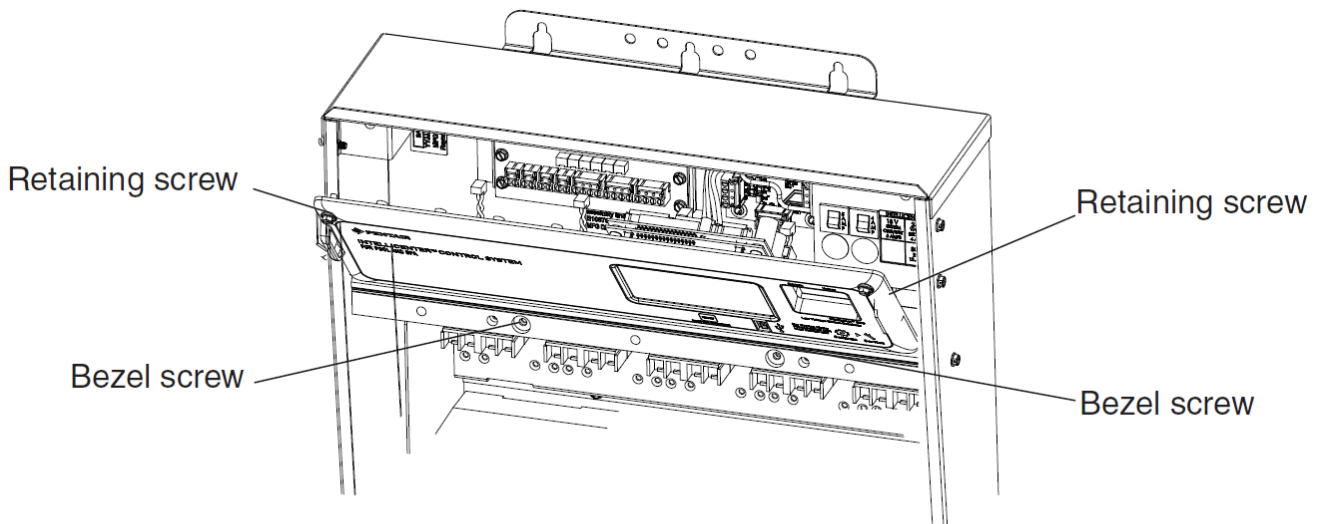

Figure 10. IntelliCenter Control System Outdoor Control Panel
5. Secure the control panel bezel to the enclosure with the two retaining screws. See Figure 10.